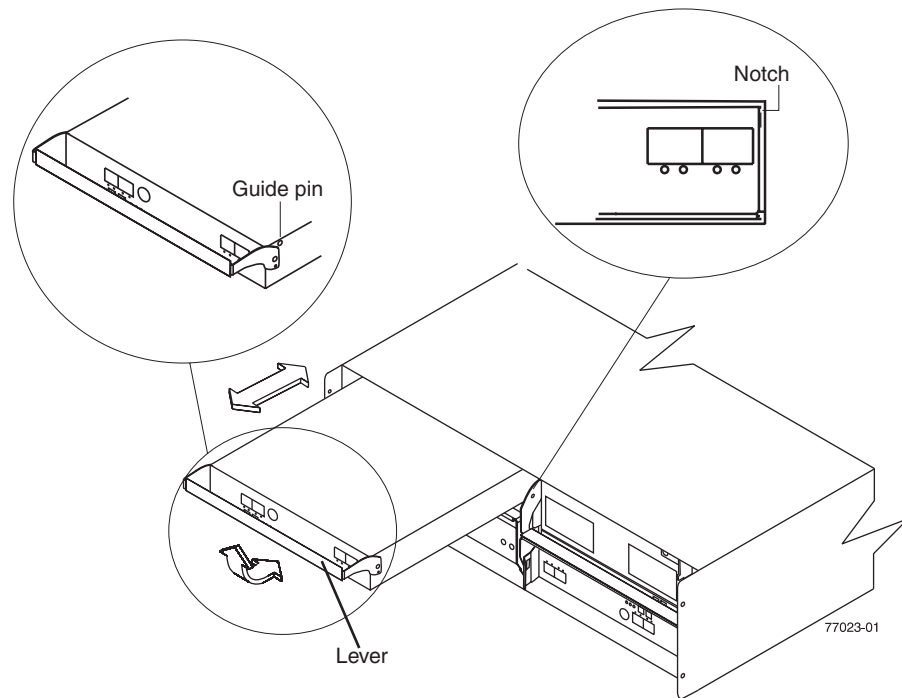

Figure 66. Removing and replacing an Environmental Service Module (ESM)
8. While squeezing the latch, pull the lever open 90° (so that the lever is horizontal). Pull the lever away from the chassis to remove the ESM from the EXP810 midplane, as shown in Figure 66 on page 127.